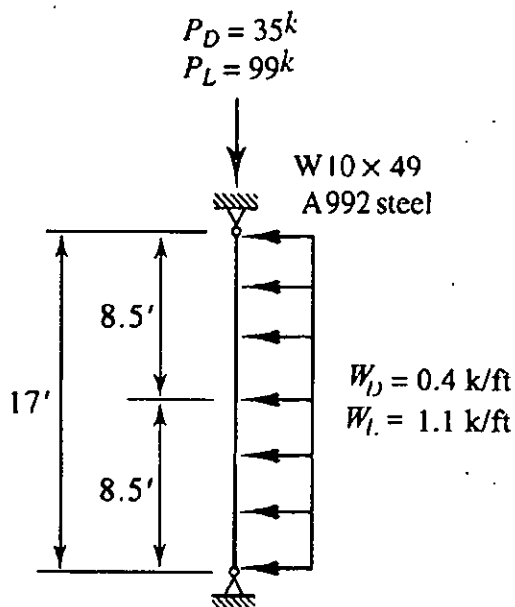

Fig.5
9. The beam-column shown in Fig.5 is pinned at both ends and is subjected to the loads shown. Bending is about the strong axis. Determine whether this member satisfies the appropriate AISC Specification interaction equation.
<p>(b): Determine effective pre-stressing force needed to produce a top fiber stress of - 2 ksi (compression) at section near support, when external load acting on the beam is 2.75 kip/ft (including self-weight) on a cantilever span of 9.50 feet (see Figure 5). Also, determine initial pre-stressing force if a loss of 20% occurs at the end.</p>	(20)